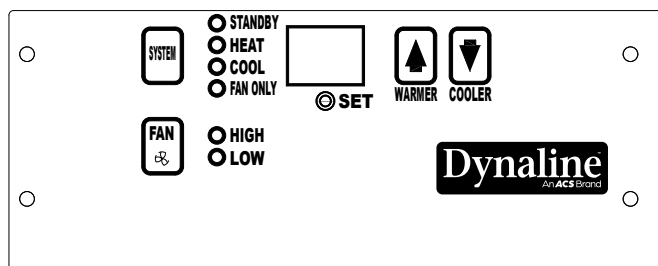

Figure 14
C. CARBON MONOXIDE (CO) DETECTOR (See Figure 14)
This Dynaline unit is equipped with an integrated carbon monoxide (CO) detector (System Sensor Model C01224T). To access the CO detector remove the front panel. The CO detector is located on the left side of the unit and consists of the detector and a power supply board. See figure 14. The system connected carbon monoxide detector known as C01224T was tested at a National Recognized Test Laboratory and has been verified to perform in the detection of carbon monoxide up to 12,000 ft above sea level. During this testing by the National Recognized Test Laboratory the detector alarmed within the time specified by ANSI/UL 2034 for carbon monoxide concentrations of 70, 150 and 400 parts per million (ppm).
1. A test button is located on the detector housing (see Figure 14)